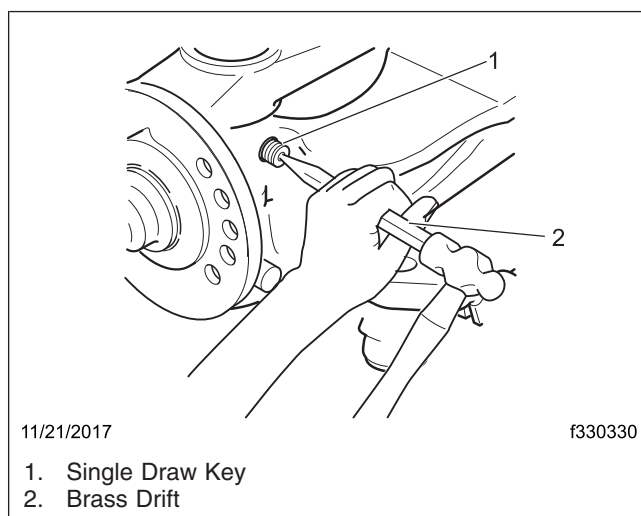

Fig. 13, Removing the Draw Key
15. *For single draw key*, remove the nut from the draw key, then drive the key out using a brass hammer and drift. See Fig. 13.